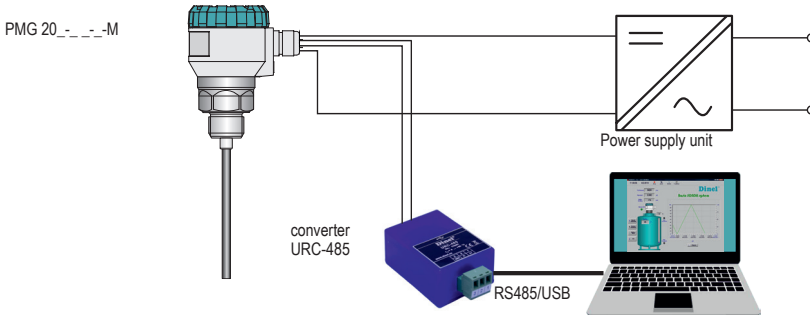

Fig. 29: Typical hardware configuration with Modbus®
A universal communication interface for the communication of the peripheral devices with the product. Data communication is via a serial line using the RS-485 standard and the Modbus RTU protocol. The list of the respective variables can be found in a separate appendix. The software application "Basic SCADA level", which is freely available on the website www.dinel.cz, can be used to set the level meter and record the measured data. The connection to the peripheral device can be made via converter URC-485, see fig. 29.
1. Heat the junction place (threaded connection) of the electrode and the electrode holder (see Fig. 29 and 30) using a heat gun at about 120-150 ° C (or 220-250 ° C for high temperature version).